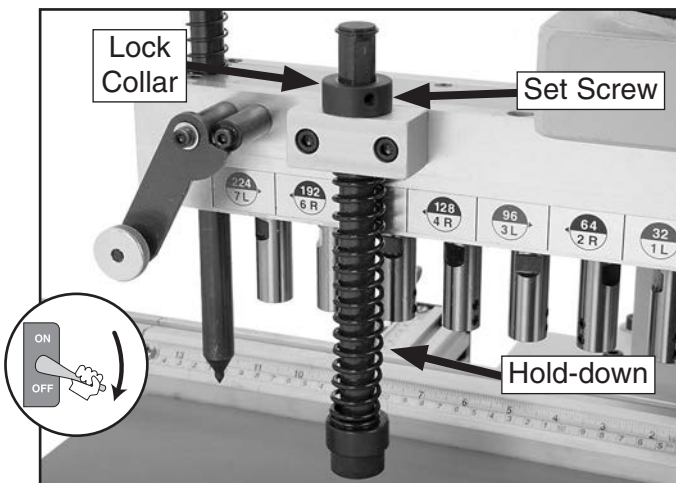

Figure 23. Workpiece hold-down (boring head guard removed for photo clarity).
2. Loosen the lock collar set screw so that the collar moves freely on the hold-down shaft (see **Figure 23**).